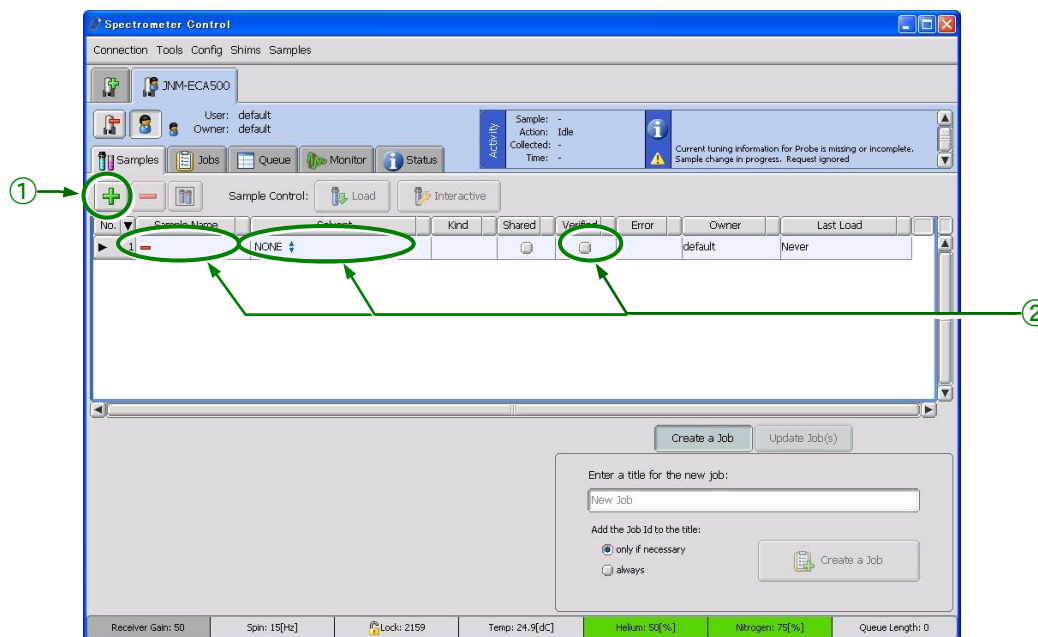

Fig. 1.9 Samples tab
1. Click the **+** button located at the top left in the Samples tab (Fig. 1.9 ①).
2. Enter the sample name in the Sample Name box. After selecting the deuterated solvent that is presently used from the Solvent box, select Verified (Fig. 1.9 ②).